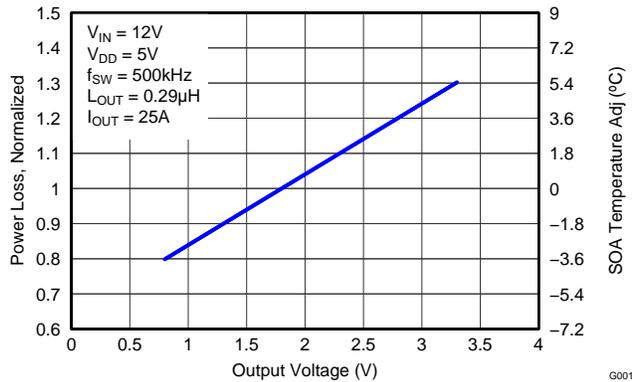

Figure 9. Normalized Power Loss vs Output Voltage
- Normalized Power Loss for output voltage \approx 0.94(Figure 9)
- SOA adjustment for output voltage \approx -1.1°C (Figure 9)